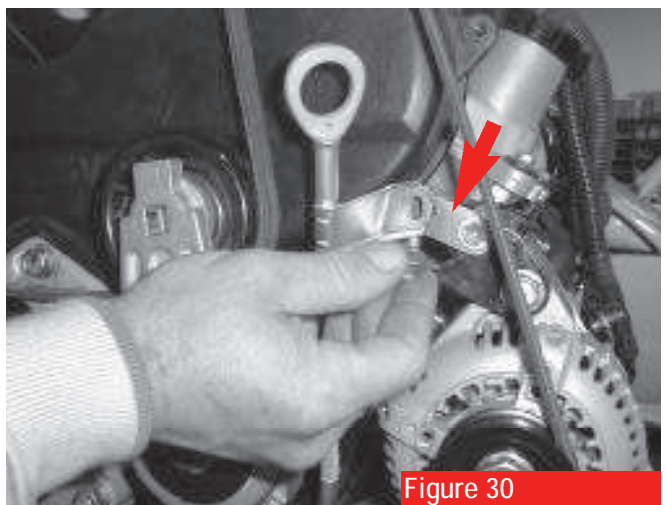

Figure 30
19. Remove the bolt holding the manifold to the intake chamber stay **(see arrow, figure 30)**. Save the bolt.
9. Install the TRD-supplied dipstick relocation bracket (**see arrow, figure 30**) utilizing the factory bolt. Reinstall the factory dipstick and attach it to new bracket using the TRD-supplied bolt (6mm x 1.0 x 12mm) .